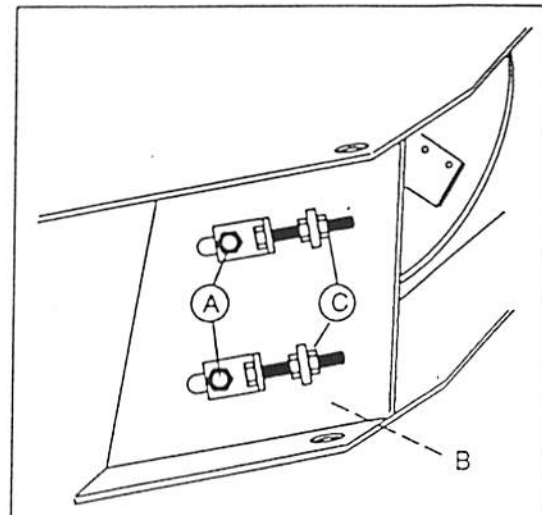

Fig.13.
2. Turn the disk so that a knife comes against the anvil. Move the anvil with the adjusting nuts (Pos. C. fig.13. wrench size  $\frac{3}{4}$ " or 19 mm) until the clearance is between  $\frac{1}{20}$  and  $\frac{1}{30}$  of an inch. If you do not have a gauge, use a matchbook cover as a guide.
3. Tighten adjusting nuts (C). Tighten anvil lock bolts (A and B) to 200 Nm or 155 foot pounds.